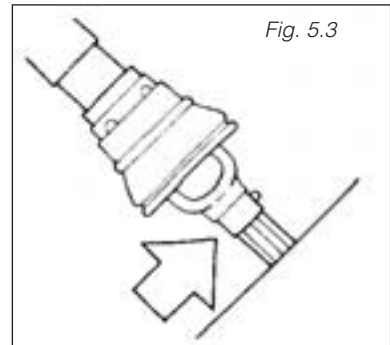

Fig. 5.3
1. Clean and grease the tractor PTO and machine Implement shaft (Fig. 5.3).